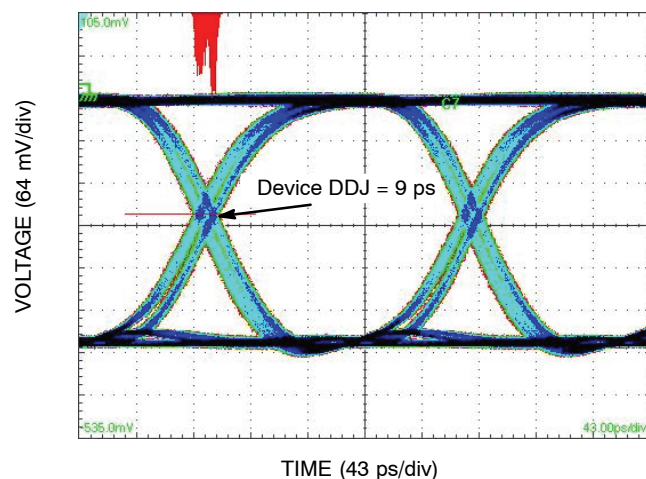

Figure 11. Typical Output Waveform at 5 Gb/s with PRBS $2^{23}-1$ ($V_{INPP} = 400$ mV; Input Signal DDJ = 13 ps)
10. $V_{INPP(MAX)}$ cannot exceed $V_{CC} - V_{EE}$. Input voltage swing is a single-ended measurement operating in differential mode. See Figure 11.